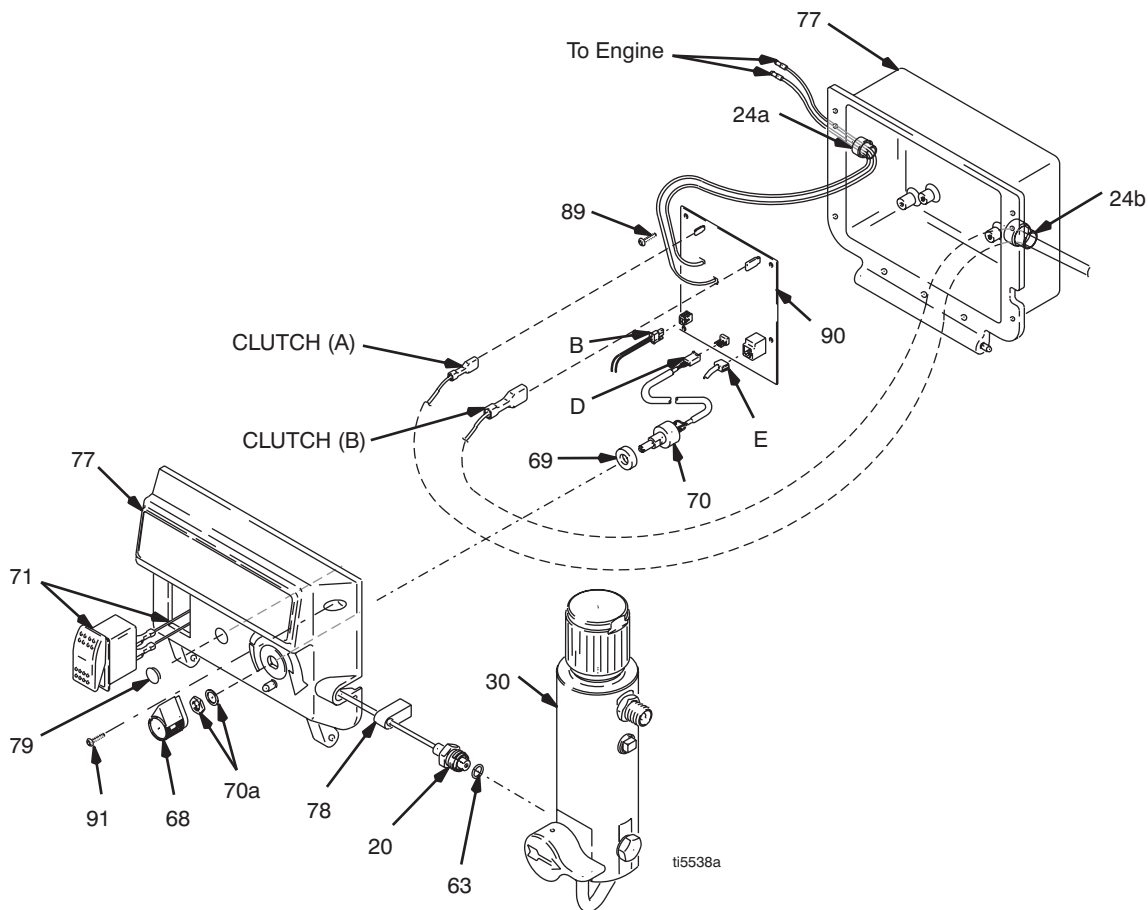

FIG. 13
2. FIG. 13. Remove two screws (91) and swing down cover (77).
3. Disconnect ON/OFF switch connector (B) from PC board.
4. Press in on two retaining tabs on each side of ON/OFF switch (71) and remove switch from cover.
2. FIG. 13. Remove two screws (91) and swing down cover (77)
5. Disconnect at control board (90):
- Lead (D) from potentiometer
- Lead (E) from transducer
- Lead (B) from ON/OFF switch
6. Remove four screws (89) and control board (90).
1. FIG. 13. Install control board (90) with four screws (89).
2. Connect at control board (90):
5. Swing up cover (77) and secure with two screws (91).
3. Disconnect lead (E) from control board (90).
4. Pull transducer connector through rubber grommet (78).
5. Remove pressure control transducer (20) and o-ring (63) from filter housing (30).
1. FIG. 13. Install o-ring (63) and pressure control transducer (20) in filter housing (30). Torque to 35 - 45 ft-lb.
3. Connect lead (E) to control board (90).
4. Swing up cover (77) and secure with two screws (91).
3. Disconnect lead (D) from control board (90).
4. Loosen set screws on potentiometer knob (68) and remove knob, shaft nut, lock washer and potentiometer (70).
5. Remove seal (69) from potentiometer.
1. Install seal (69) on potentiometer (70).
2. FIG. 13. Install potentiometer, shaft nut, lock washer and potentiometer knob (68).
- a. Turn potentiometer shaft clockwise to internal stop. Assemble potentiometer knob (68) to strike pin on cover (77).
3. Connect lead (D) to control board (90).